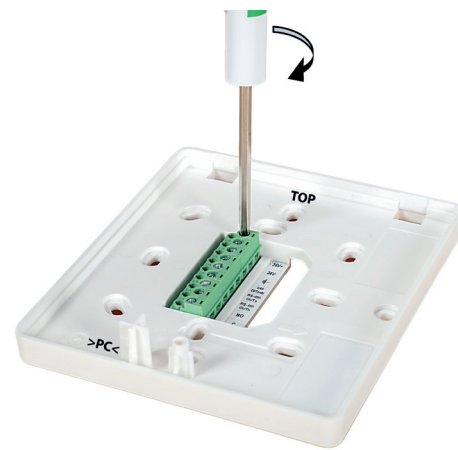

Figure 2: Connecting Wires to Terminal Connector
3. Connect the wires to the terminal connector located in the base, as indicated in Figure 2. The terminal block on the base includes a label to identify the connections. Figure 3 shows the wiring connection definitions. All units come with an analog and a digital output. The analog output will be either current (mA) or voltage (V) and the digital output will be either BACnet or Modbus. The choice is made based on the part number ordered.